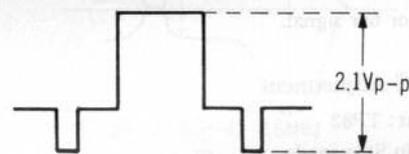

Fig. 30
5. Adjust R3275 so that the output becomes 2.1 Vp-p as shown in Fig. 30.